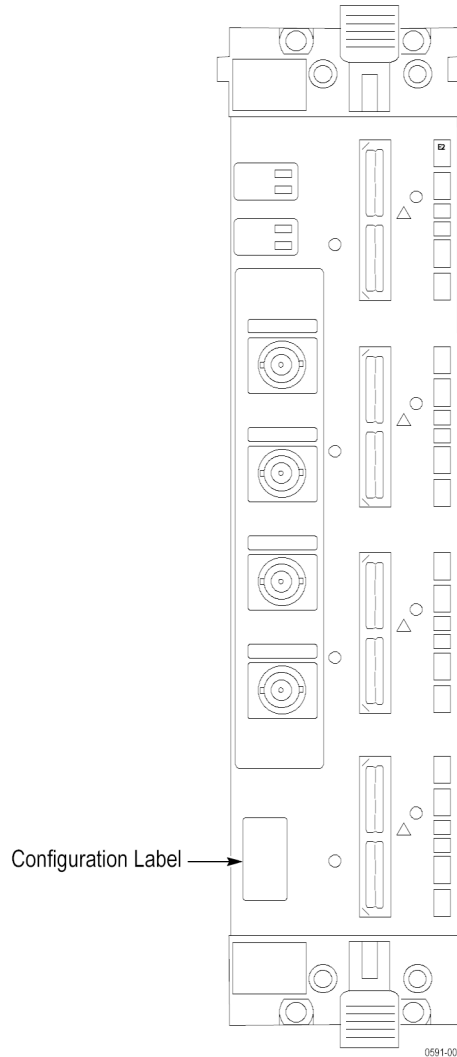

Figure 5: Configuration label location on TLA logic analyzer modules
- Lexan label. This label is located on the front of the module and lists the current configuration. (See Figure 5 on page 6.)